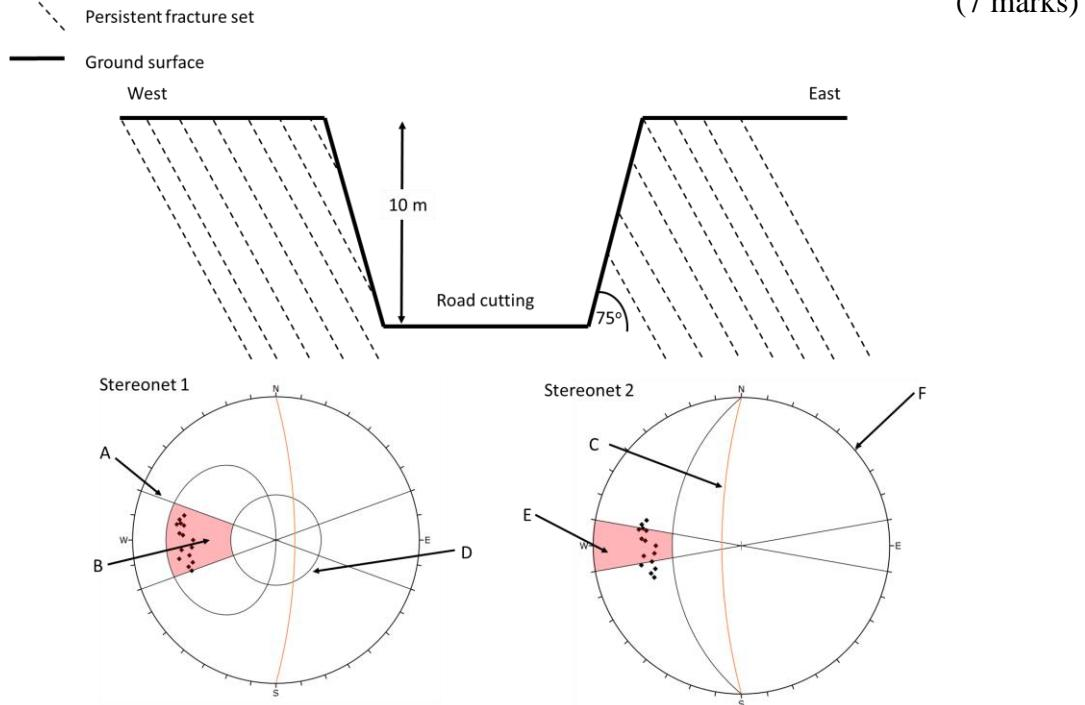

Figure Q5
The cutting is 10 m deep and both sides have been trimmed back to 75° . The rock mass has one set of persistent fractures, which have a friction angle of 35° . Figure Q5 shows a sketch of the cutting and two stereonet projections plotted with the poles of the fractures (black diamonds, which are the same in Stereonets 1 and 2). Stereonet 1 relates to the west side of the cutting and Stereonet 2 relates to the east side of the cutting. No other fracture sets are visible. The cliff section is dry.
- c.) Match the terms given below with the correct letters on Stereonets 1 and 2 (A - F) in Figure Q5.